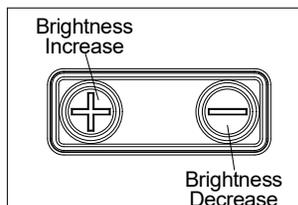

Fig 6
1. Power On: A momentary press of either button ("+" or "-") will power on the sight, See Fig 6.